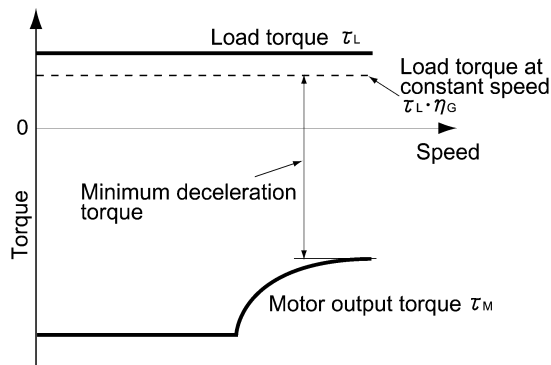

Figure 7.5 Example Study of Minimum Deceleration Torque (1)
- 2) Calculate the minimum deceleration torque (See Figures 7.5 and 7.6.)